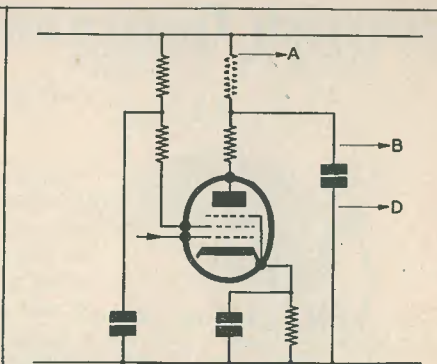

FIG. 3. Substituting both a resistor & condenser
Fig. 3 shows how it is possible to experiment with the values of both a decoupling resistor and condenser at one and the same time. For this, switch 2 must be in the on position. A comparison with Fig. 1 will show how this works. (A) the common resistor line is connected to the h.t. rail; (B) is secured to the remaining anode resistor and (D) is clipped to the chassis.